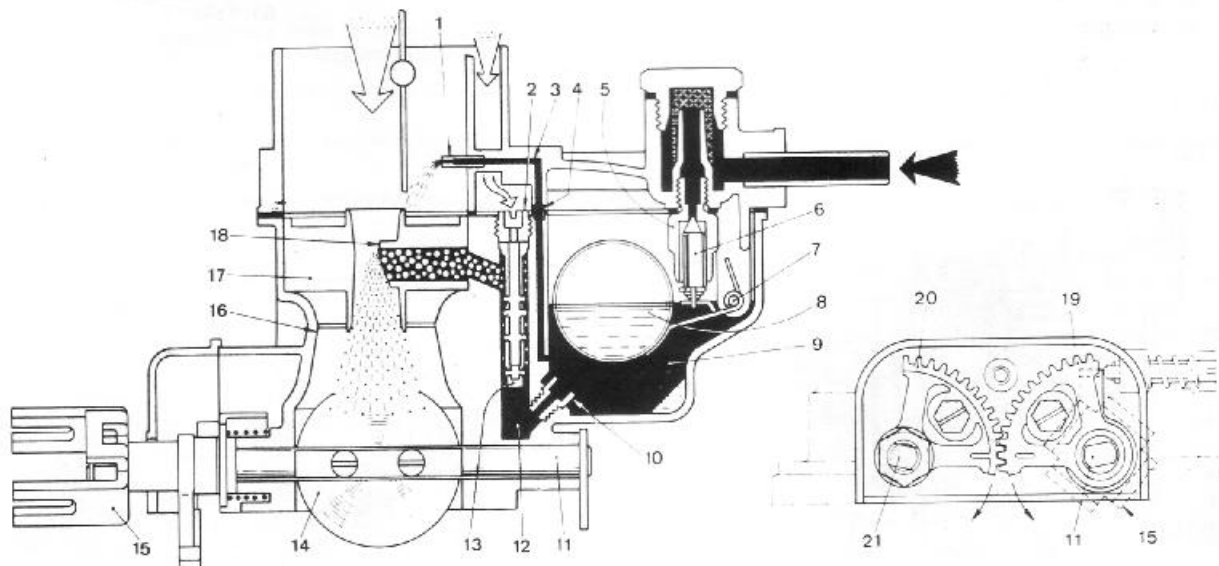

Fig. 9.5 Carburettor normal phase (DFAV types) (Sec 3)
Under full throttle and high speed cruise conditions, the main fuel supply circuit is brought into action. Refer to Fig. 9.5 and note that fuel from the float chamber (9) passes through the main jets (10) to the emulsion tube wells (12). Air is drawn through the air corrector jets (2), through the holes in the emulsion tubes (13) and emulsifies the fuel which is then drawn through the nozzles (18) and auxiliary venturis (17). The mixture then combines with the main air supply as it is drawn through the chokes (16) and into the engine.